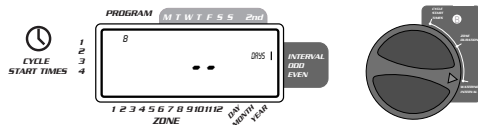

FIGURE 8: LCD Display with Watering Interval
- Turn the rotary dial to **WATERING INTERVAL**. The cursor will blink to the left of the word **INTERVAL** [See Figure 8].